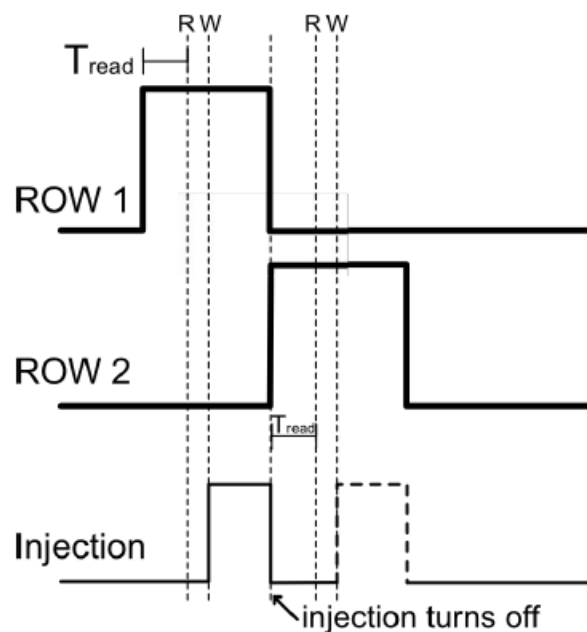

Figure 3: I/O mode v2
- One way to fix this behavior is shown in Figure 3: Every time the row signals change, uniMatrix first turns off all injection signals and only turns them back on after reading. In theory, this solves the above issue, but can cause other problems, mostly due to keyboard capacitance. It can be very difficult to find the right value for Tread. In one synthesizer we tested, incorrect output notes were eliminated for some keys, but not for others.